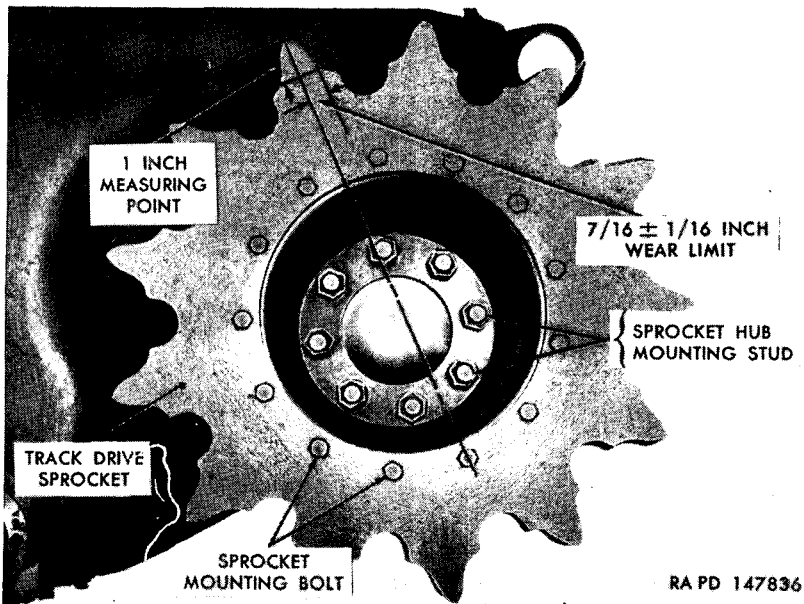
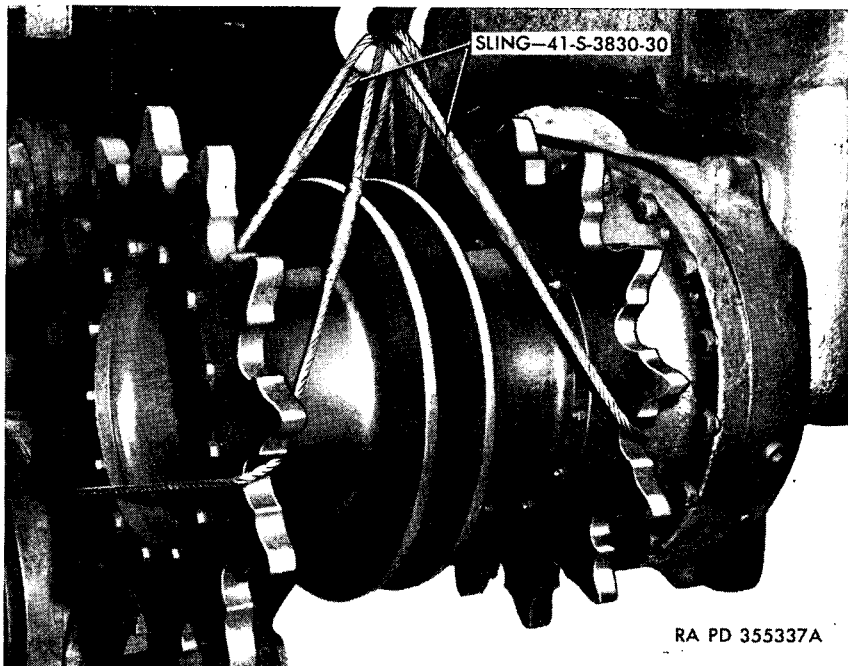

Figure 241. Track drive sprocket wear limit.
Figure 242. Removing track drive sprockets and hub.
a. **REMOVAL.** Remove rear dust shield and fender (par. 266*b*). Disconnect track (par. 249*b*), and move it clear of the sprockets. Attach a rope sling to the outer sprocket. Remove 13 bolts and nuts, and remove outer track drive sprocket (fig. 241). To remove the inner drive sprocket remove the sprocket hub (par. 245). Stand the sprocket hub on end with the inner sprocket up. Remove 13 bolts and nuts, and remove inner sprocket.
- (1) *Cleaning.* Clean both drive sprockets thoroughly with volatile mineral spirits or dry-cleaning solvent. If available, steam may be used to remove remaining accumulations of grease and dirt. Rinse sprockets in volatile mineral spirits or dry-cleaning solvent and blow dry with compressed air.
- (2) *Inspection* (fig. 241). Inspect drive sprocket for warp, cracks, or damaged teeth. If any of these conditions are found, replace sprocket. Check sprocket teeth for excessive wear. Wear will occur on the face of each tooth in the driving direction. When one face of the tooth is excessively worn, the sprocket will be reversed on the hub at time of assembly (*c* below) so that the wear will occur on the opposite face of the tooth. An easy method of measuring to determine the extent of wear is to locate the center line of the tooth by drawing a line through a point halfway between two mounting bolt holes and the center of the opposite mounting bolt hole as shown in figure 241. Since the maximum wear occurs at the pitch diameter of the tooth, determine this point by measuring one inch down on the center line from the top of the tooth. Measure the distance from the center line to each face of the tooth at the pitch diameter. When sprocket is new this dimension will be eleven-sixteenths
a. **REMOVAL.** Remove rear dust shield and fender (par. 266*b*). Disconnect track (par. 249*a*), and pull clear of sprockets. Install sling 41-S-3830-30 (fig. 242), and adjust so that sling will hold the weight of the sprockets and hub. Remove the eight safety nuts from sprocket hub mounting studs (fig. 241). Remove the sprocket hub.
b. **INSTALLATION.** Using sling 41-S-3830-30, lift sprocket hub onto sprocket hub mounting studs and secure with eight safety nuts (fig. 241). Remove lifting sling. Connect track. Install rear fender and dust shield (par. 266*c*).